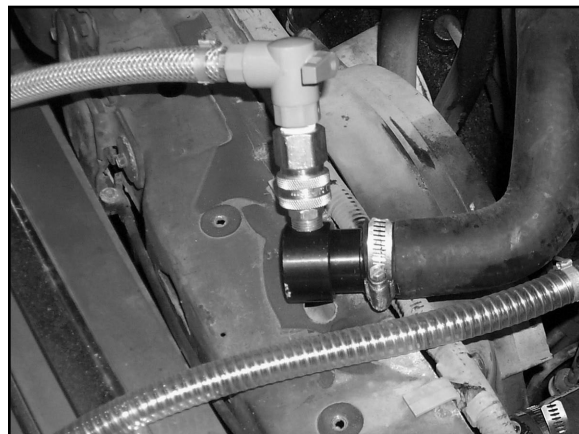

Figure 2-2: Supply Hose and Adapter Attached to Engine
12. Connect supply hose (blue) and adapter to engine side of disconnected radiator hose, refer to *fig. 2-2*.